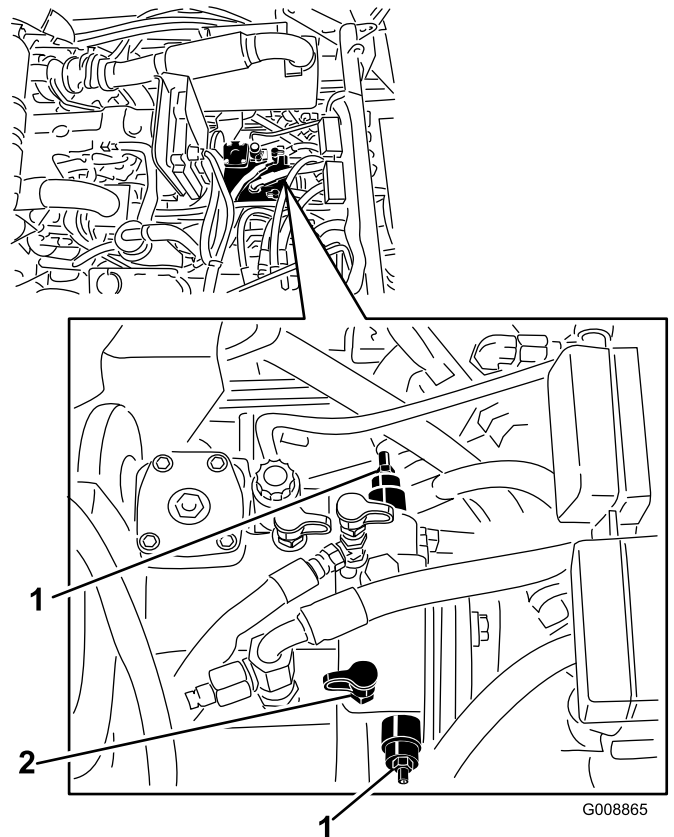

Figure 35
1. Raise the hood and locate the bypass valves on the sides of the pump (Figure 35).
2. To actuate the tow valves, loosen the jam nut on each bypass valve stem (Figure 35).
Important: If the machine must be pushed or towed in reverse, the check valve in the four-wheel drive manifold must also be bypassed. To bypass the check valve, connect a hose assembly (Hose Part No. 95-8843, Coupler Fitting No. 95-0985 [Qty. 2], and Hydraulic Fitting No. 340-77 [Qty. 2]) to the reverse traction pressure test port (Figure 35. and Figure 36). and the reverse four-wheel drive pressure port (Figure 36).